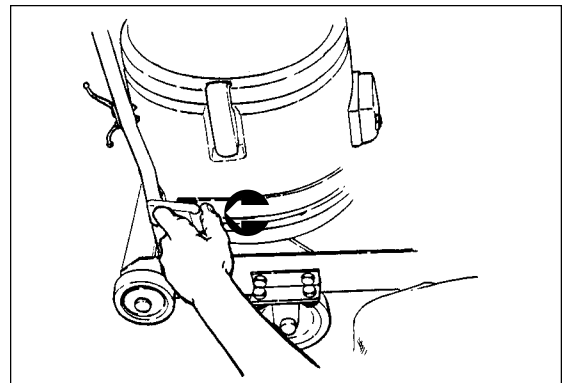

Figure 4
7. Disconnect the vacuum straps by unhinging the draw latch. The vacuum strap will spring back and the vacuum can be lifted off the truck frame. (See Figure 4)